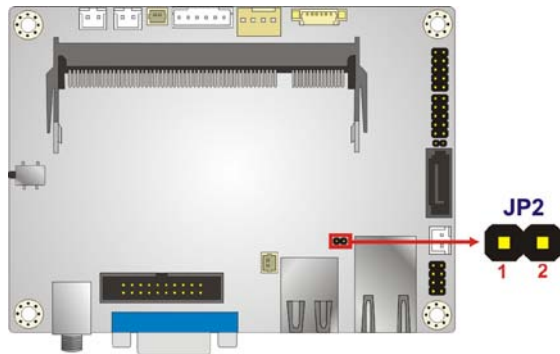

Figure 3-13: LAN LED Connector Location
- CN Location: See **Figure 3-13**